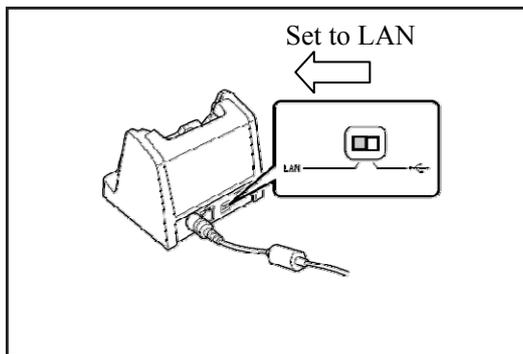

Figure 5.31
4. Make sure the selector switch on the back of the HA-D62IO Ethernet cradle is set to the position “LAN”. See Figure 5.31 below.